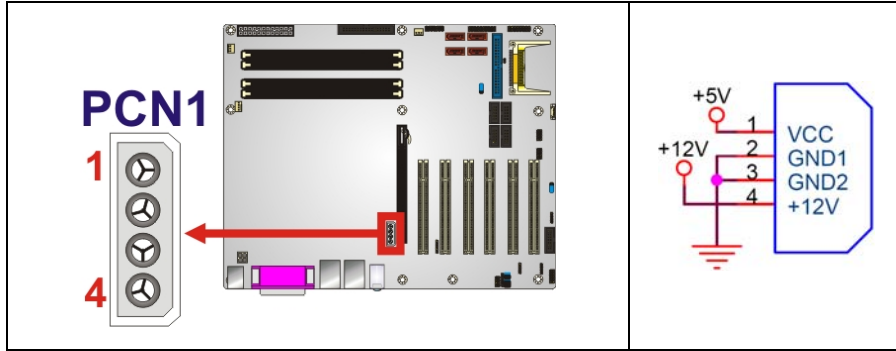

Figure 4-16: PCI Express Power Connector Pinout Locations
- CN Location:** See Figure 4-16